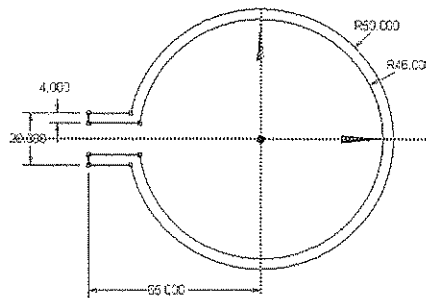

Figure 3-99 Dimensions to be generated for the sketch of base feature
10. Generate all dimensions shown in Figure 3-99 and edit the value of dimensions in the **Details View** window, refer to Figure 3-100.